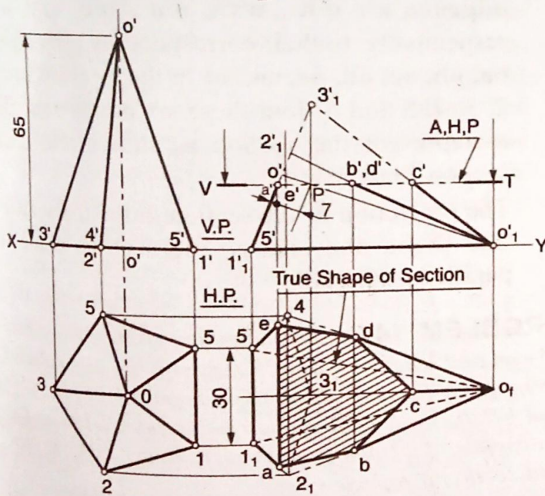

Fig. 14.4. First Angle Projection
**SOLUTION:** Refer Fig. 14.4.